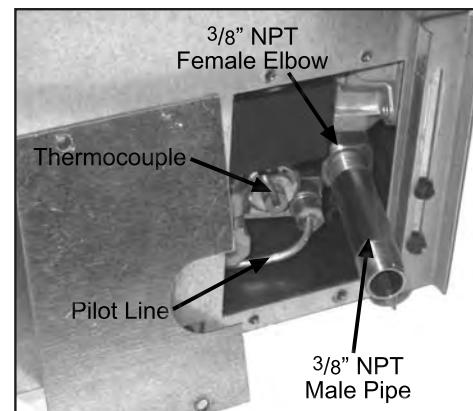

Figure 50: $3/8"$ NPT female elbow.
- A $3/8"$ NPT male pipe will have to be turned into the $3/8"$ NPT female elbow at the lower right side rear of this fireplace (see Figure 50). Consult the local authorities for local codes or use the CAN/CGA B149 (1 or 2) installation code in Canada. In the US, gas installations follow either local codes or the current edition of the National Fuel Gas Code ANSI Z223.1.